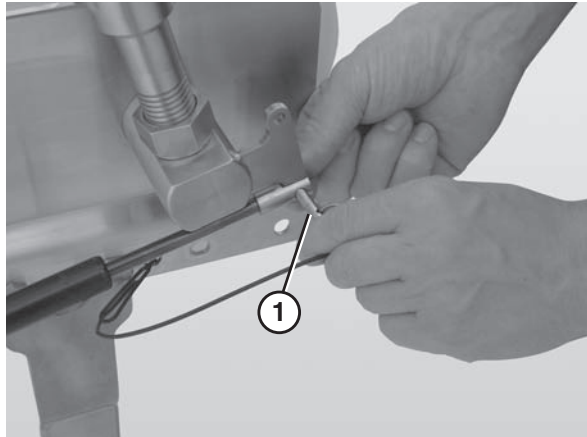

Figure 91
2. Remove the pull pin (**Figure 91, item 1**).